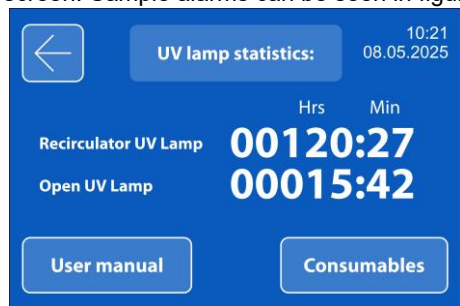

Figure 8. UV lamp statistics
8.1.4. **UV lamp statistics.** Information is available by pressing the **Statistics** button (the circled *i*, figure 4). In this separate screen (figure 8), usage is shown in hours and minutes. Two buttons below lead to screens with QR codes: **User manual** links to this manual, **Consumables** – to available consumable resources. Press the  button to return to the previous screen.